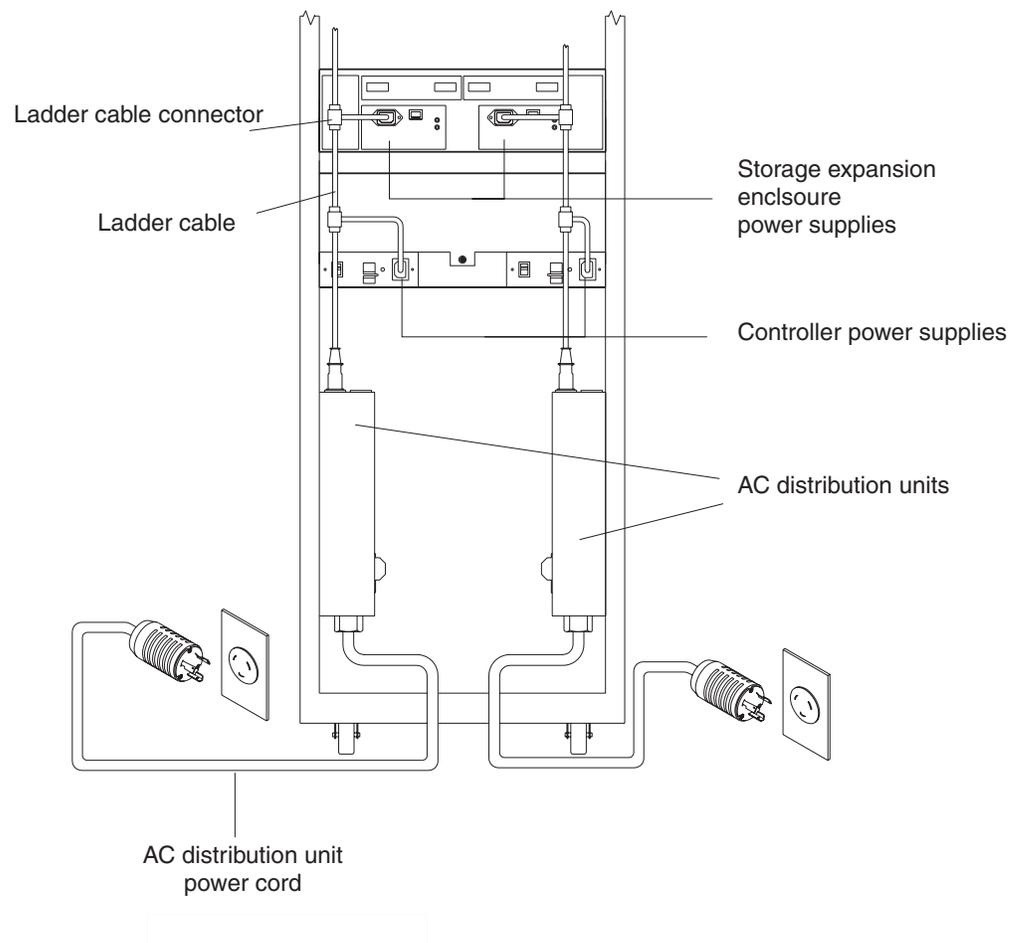

Figure 40. Redundant ac power connections to controllers and storage expansion enclosures
Note: To maintain power redundancy on the DS4300 dual-controller storage server (Model 60U/60X), plug the storage server's right and the left power supplies into two independent external power circuits through ac distribution units inside a rack cabinet or directly into external receptacles. Similarly, the right and left power supplies of the DS4000 storage expansion enclosures attached to the DS4300 storage server should be plugged into the same two independent external power circuits as the DS4300 storage server. See Figure 40 for an example of redundant power cabling.
- **DS4300 models 60U/60X only:** To maintain power redundancy, plug the DS4300 storage server’s right and left power supplies into two independent external power circuits through ac distribution units inside a rack cabinet or directly into external receptacles. Similarly, the right and left power supplies of the DS4000 storage expansion enclosures attached to the DS4300 storage server should be plugged into the same two independent external power circuits as the DS4300 storage server. This ensures that the DS4300 storage server and all its attached storage expansion enclosures will have power if only one power circuit is available. In addition, having all the right or all the left power supplies plug into the same power circuit will enable the components in the storage subsystem to power on simultaneously during an unattended restoration of power. See Figure 40 on page 41 for an example of redundant power connections.